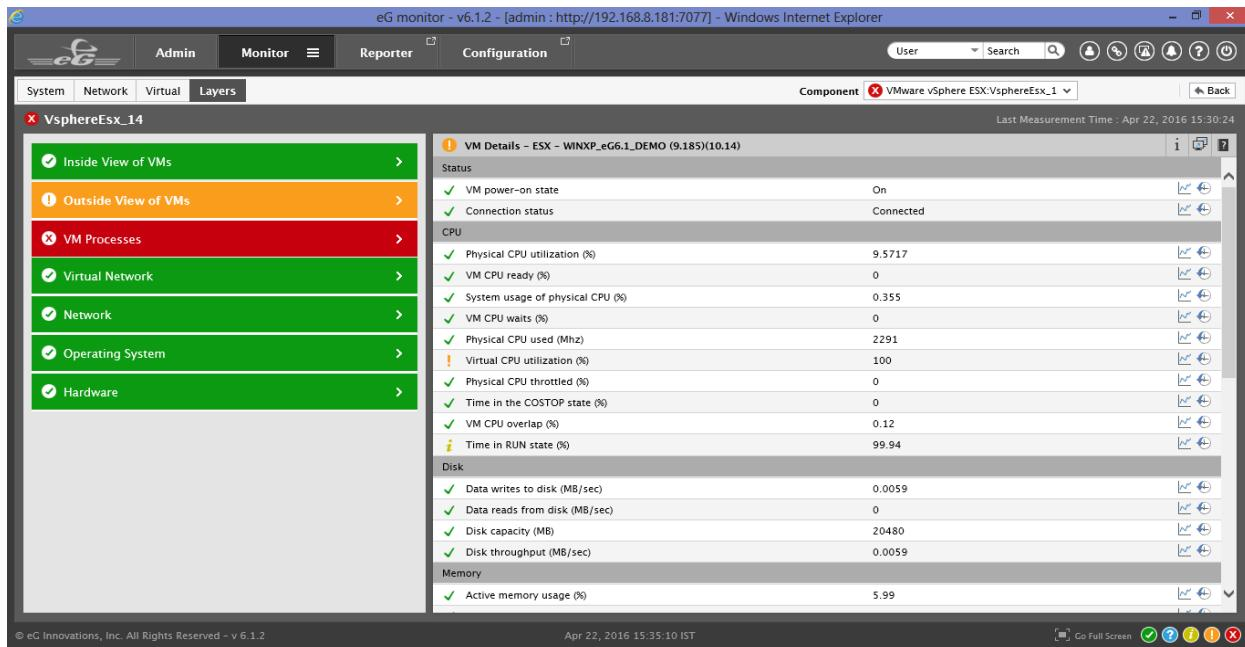

Figure 4.9: Launching the eG monitoring console from the SCOM console
5. If you select a component from the **All Components** view and click the **Diagnose using eG** option in the **Actions** pane, Figure 4.9 will appear.
- Figure 4.9 reveals the layer model of the component chosen from the **All Components** view, and also displays the problem layer, problem test and problem measures related to that component. This way, you can quickly isolate why the component is in an abnormal state currently.